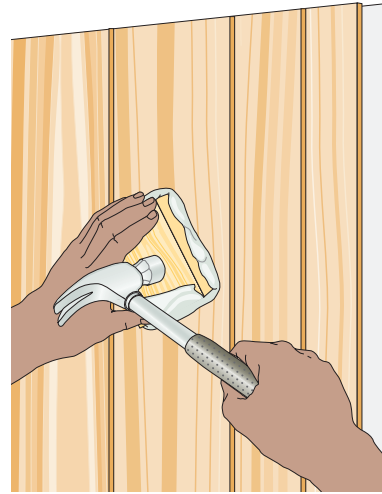

Figure 28-7 Bedding the Panel
- Place a padded block of wood against the panel and tap the block with a hammer or rubber mallet to achieve full-surface contact, as shown in **Figure 28-7**. Be sure to round over (ease) the corners and edges of the block so that they will not leave marks on the panel.